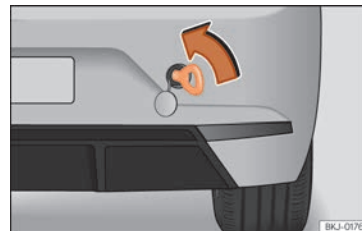

Fig. 50 Right side of the rear bumper: towline anchorage in position.
- Screw the towline anchorage into the housing by turning it as far as it will go **anticlockwise** »» Fig. 50 »» ⓘ. Use a suitable object that can completely and securely tighten the towing eye in its housing.